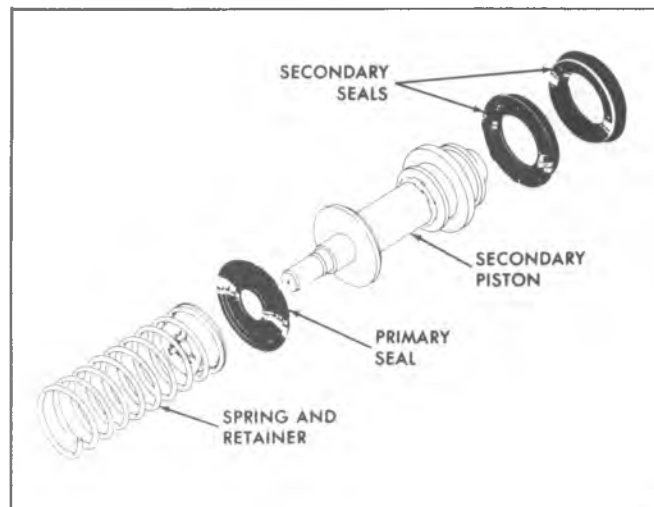

Fig. 5-15--Delco Secondary Piston - Exploded View
2. Put new secondary seal in groove in end of secondary piston (fig. 5-15).
3. Assemble a new primary seal over end of secondary piston, so that flat side of the seal seats against flange of piston (fig. 5-15).